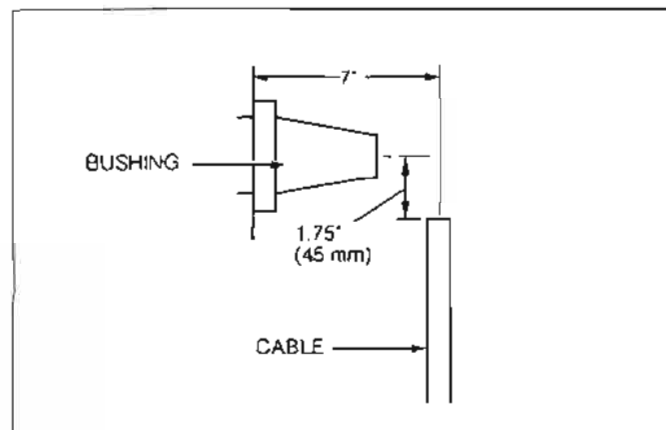

Figure 2.
- Cut cable 1.75" (45 mm) from centerline of bushing. (Refer to Figure 2.)